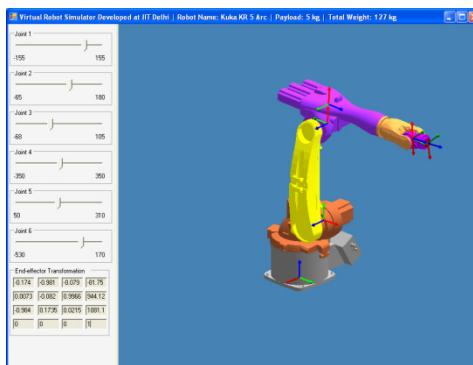

Figure 25: Virtual Robot Application Being Controlled from MATLAB
4. Open C:\VirtualRobotsCOM\virtualRobotInMatlab.m in MATLAB and run it. Virtual Robot Application as shown in Figure 25 is displayed.
6. Denavit-Hartenberg (DH) parameters of Kuka KR5 robot is given in " C:\VirtualRobotsCOM\ DHParameters\_KukaKR5.pdf"